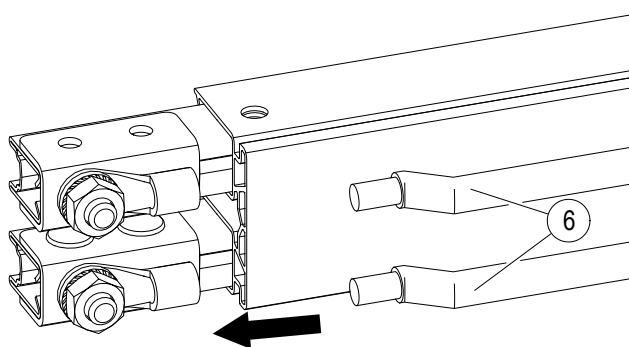

Fig. 20: Crimp connection cables with crimping cable lug
- Strip the connecting cables at the ends and crimp them with the crimping cable lugs (see Fig. 20).